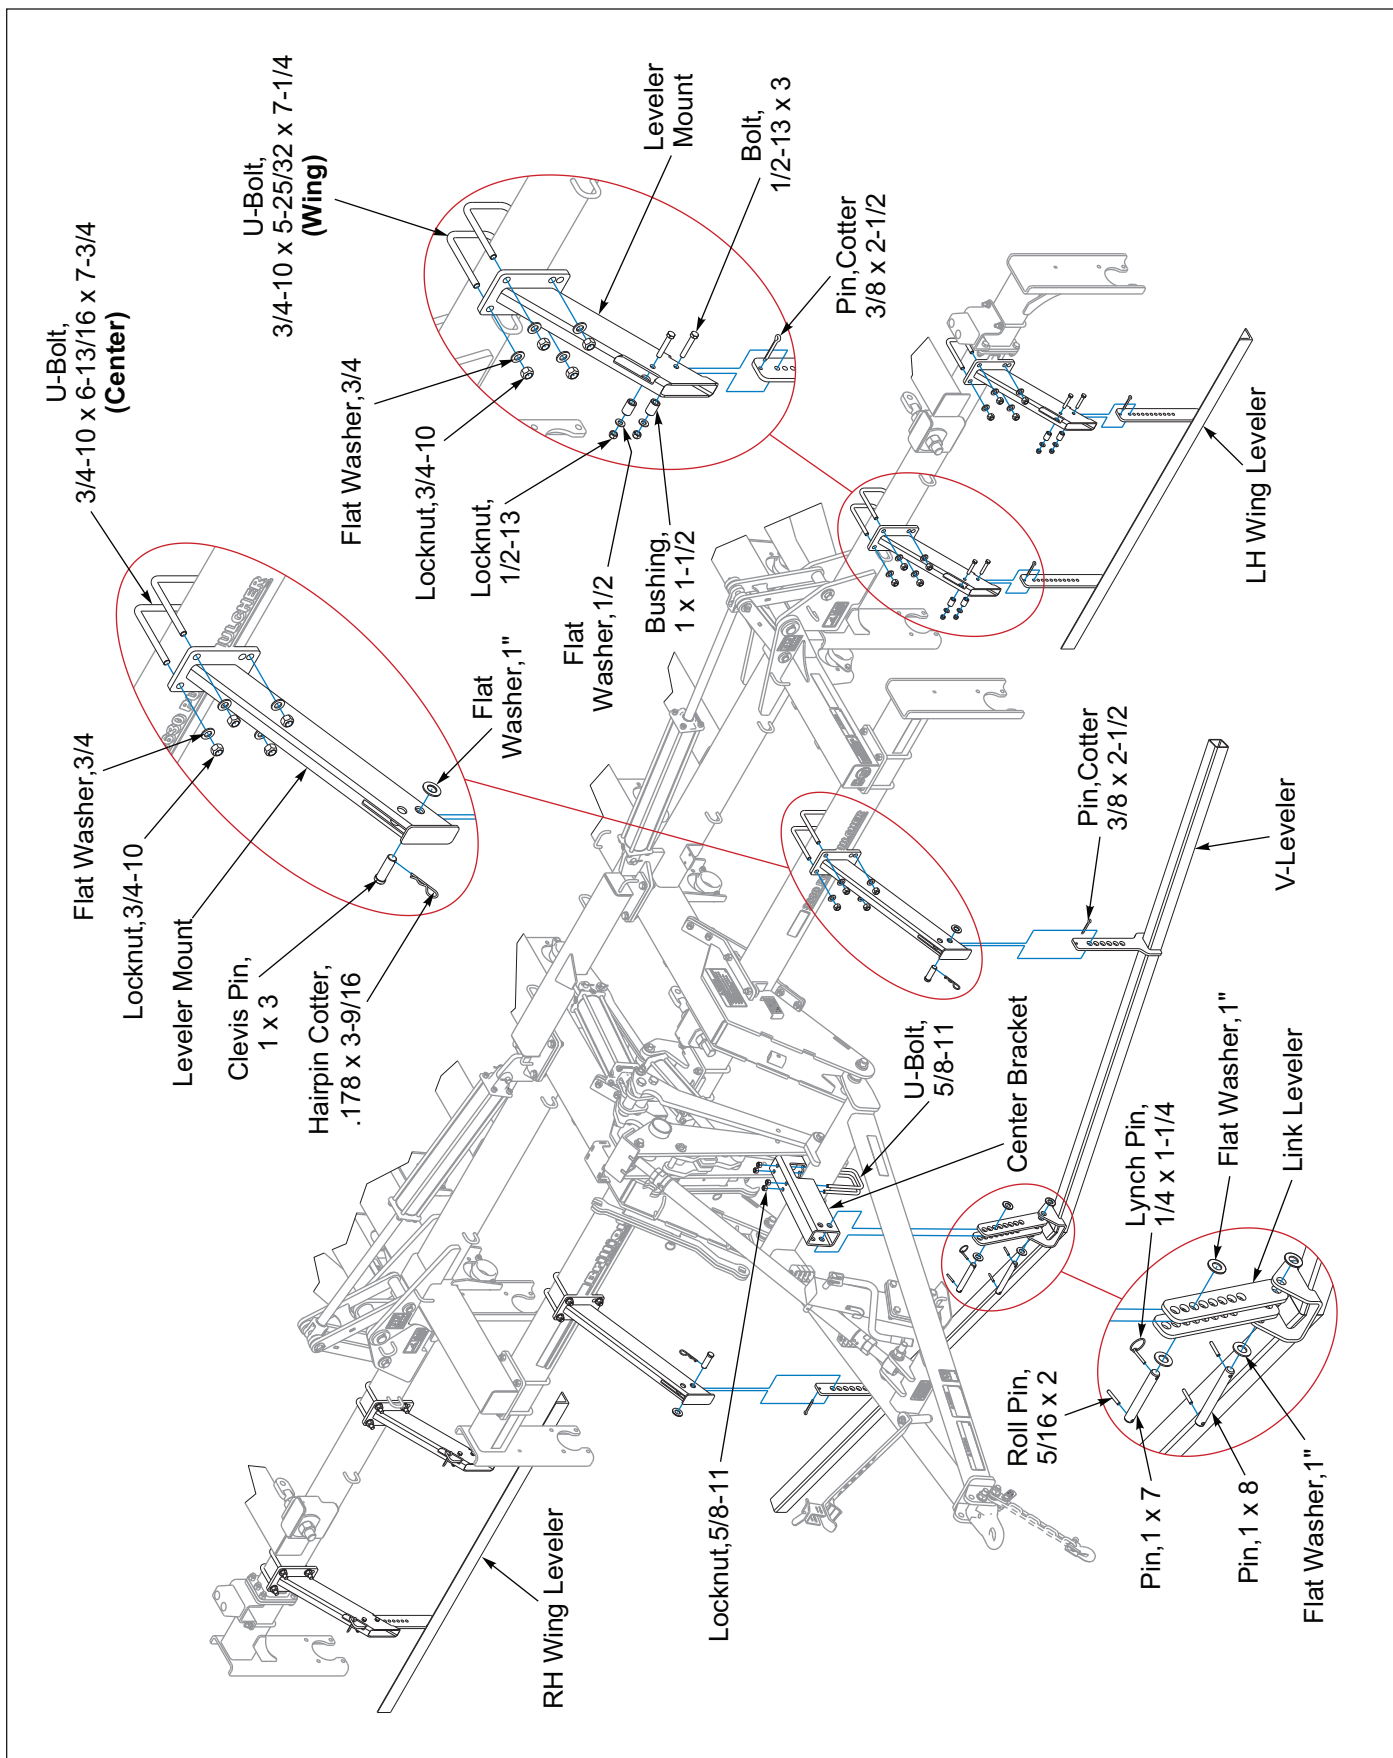

Figure 2-82: V-Leveler Installation - Optional
1. Place the cutout of the V-Leveler Bracket on top and center it on the Drawbar Rear Cross Tube. Secure with 5/8-11 U-Bolts and Locknuts. **See Figure 2-82.**
1. Attach the Leveler Mounts to the Front Wing Frame Tube with 3/4-10 x 5-25/32 x 7-1/4 U-Bolts, Flat Washers and Locknuts. **See Figure 2-82.**